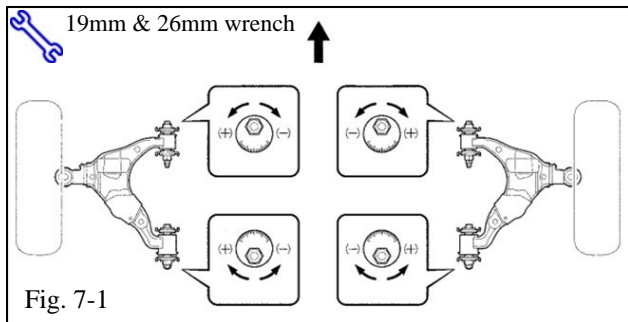

Fig. 7-1
- (c) Loosen the adjustment nuts and bolts (Fig. 7-1).